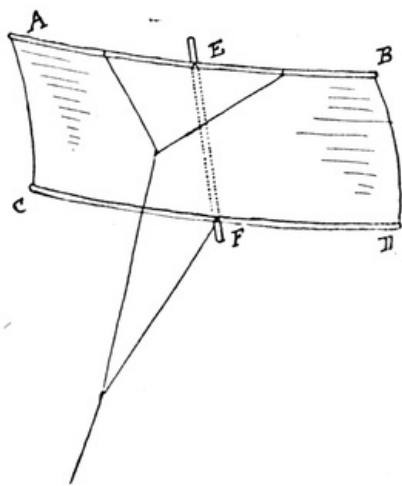
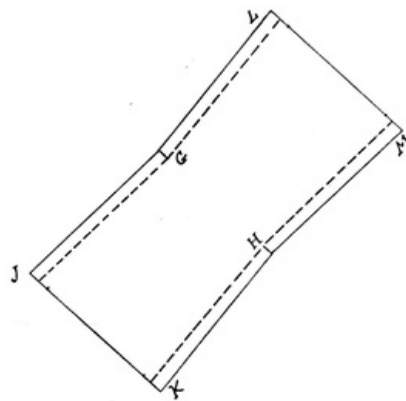

FIG. 467
FIG. 468
**Kites.** Perhaps one of the easiest kites to make is one which the children of Annam and Tonking delight to play with. To make it, three light bamboo canes are required—about 2 feet in length—those used for flower-sticks will do quite well. Tie them strongly together as in Fig. 467.
Fig. 468 shows how the paper should be cut. G H is the exact distance between E and F; J K and L M are wider than distances between A C and B D in Fig. 467, so that when the flaps on the paper are pasted over the cross-bits the paper is loose between A and C and between B and D (Fig. 467). The secret of the balance is to have the flutter at the edges quite equal. Fig. 467 shows how the string is fastened.